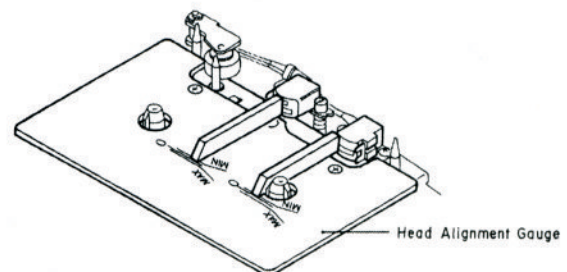

Fig. 4.2
Refer to Fig. 4.2.
- (1) Load the base of the Head Alignment Gauge carefully, then push the base toward the Record/Playback Head to eliminate the clearance between the reference pin and the base.
- (2) Set the cassette deck in Play mode.
- (3) Place the small block of the Head Alignment Gauge on the base.
- (4) Contact the small block with the Record/Playback Head surface and the Erase Head surface, and check whether the end of the small block is located within the specified tolerance as shown in Fig. 4.2.